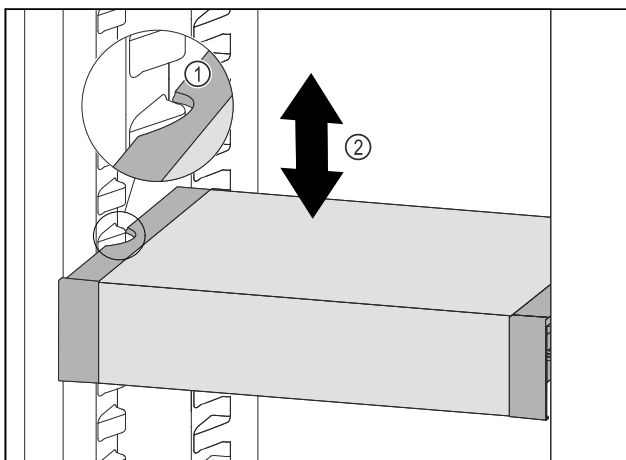

Fig. 99
- Pull VarioSafe forwards until the recesses in the side of the VarioSafe are at the level of the support rib in the refrigerator compartment. Fig. 99 (1)
- Move VarioSafe up or down in the refrigerator compartment until the desired height is reached. Fig. 99 (2)